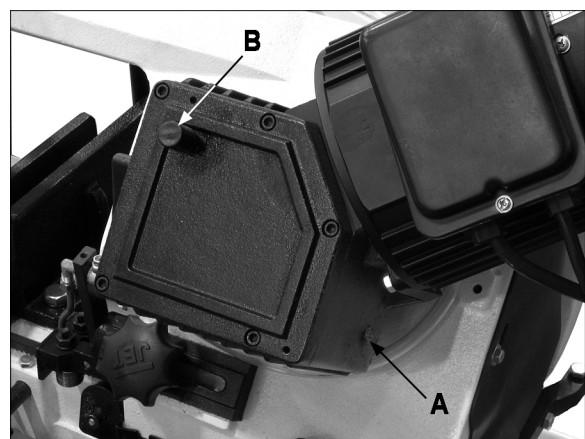

Figure 31
3. Remove drain plug (A, Figure 31) and drain oil. (Follow local regulations for disposal of used oil.)
5. Remove vent plug (B) and fill gear box through the hole with approximately 0.3L (10.14 oz.) of 90W oil.
6. Reinstall vent plug (B).